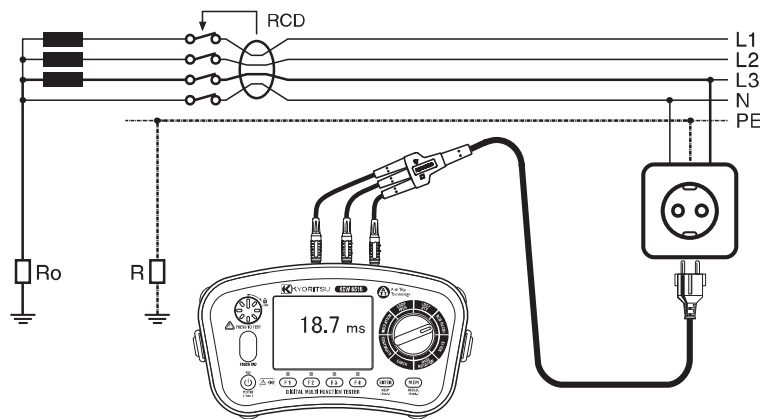

Fig. 11-1
Ground being imperfect in the Fig. 11-1, when R exists, when a fault current flows to R, electric potential occurs. There is a possibility the person contacting in this imperfect ground, it calls the voltage, which it occurs in the human body of this time, called Uc. When with the Uc Test letting flow $I\Delta N$ to the RCD, the Uc is calculated. Uc voltage is calculated based on the Rated Residual Current ($I\Delta N$) with the impedance measured.
(7) Connect the test leads to the circuit to be tested. (Fig. 11-1, 11-2, and 11-3)
(8) Wiring Check